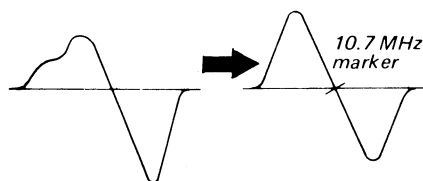

Fig. 3-6 "S" curve
3. Turn the core of discriminator transformer (IFT 204) to obtain the S curve response shown in Fig. 3-6.